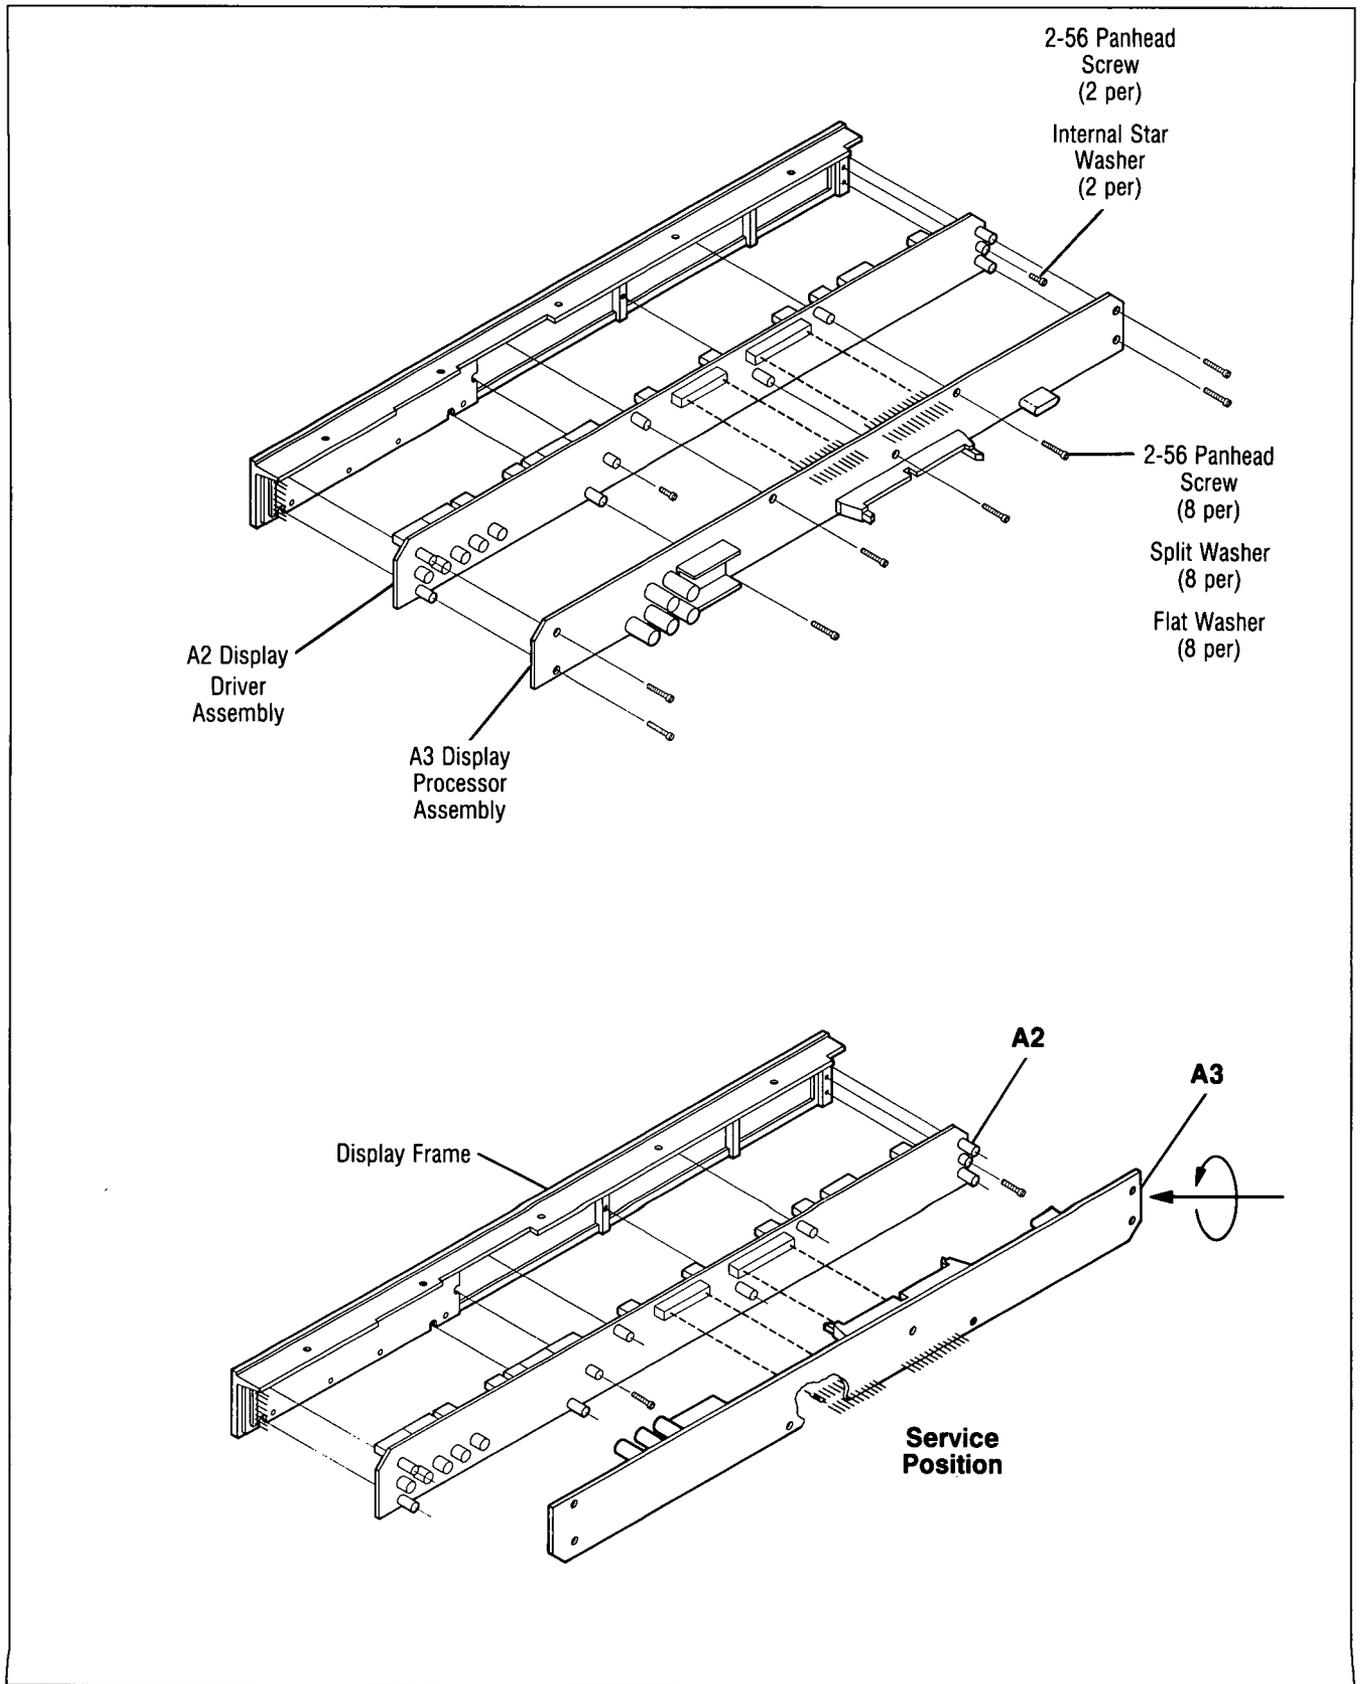

Figure G-6. A2, A3 Disassembly
1. Refer to Figure G-6 and remove the front panel assembly from the instrument.
11. To troubleshoot the display, configure the display assemblies in the service position (Figure G-6), reconnect the ribbon cables, lay the display assembly on the reinstalled top cover, and attach the keyboard to the front panel for support.